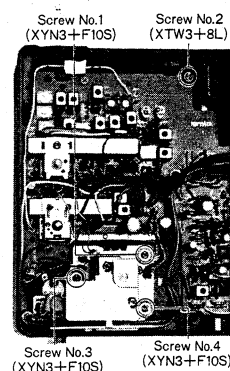

Fig. 3
3. Remove the four (4) screws (nos. 1~4) for the dial drive assembly, as shown in fig. 3.